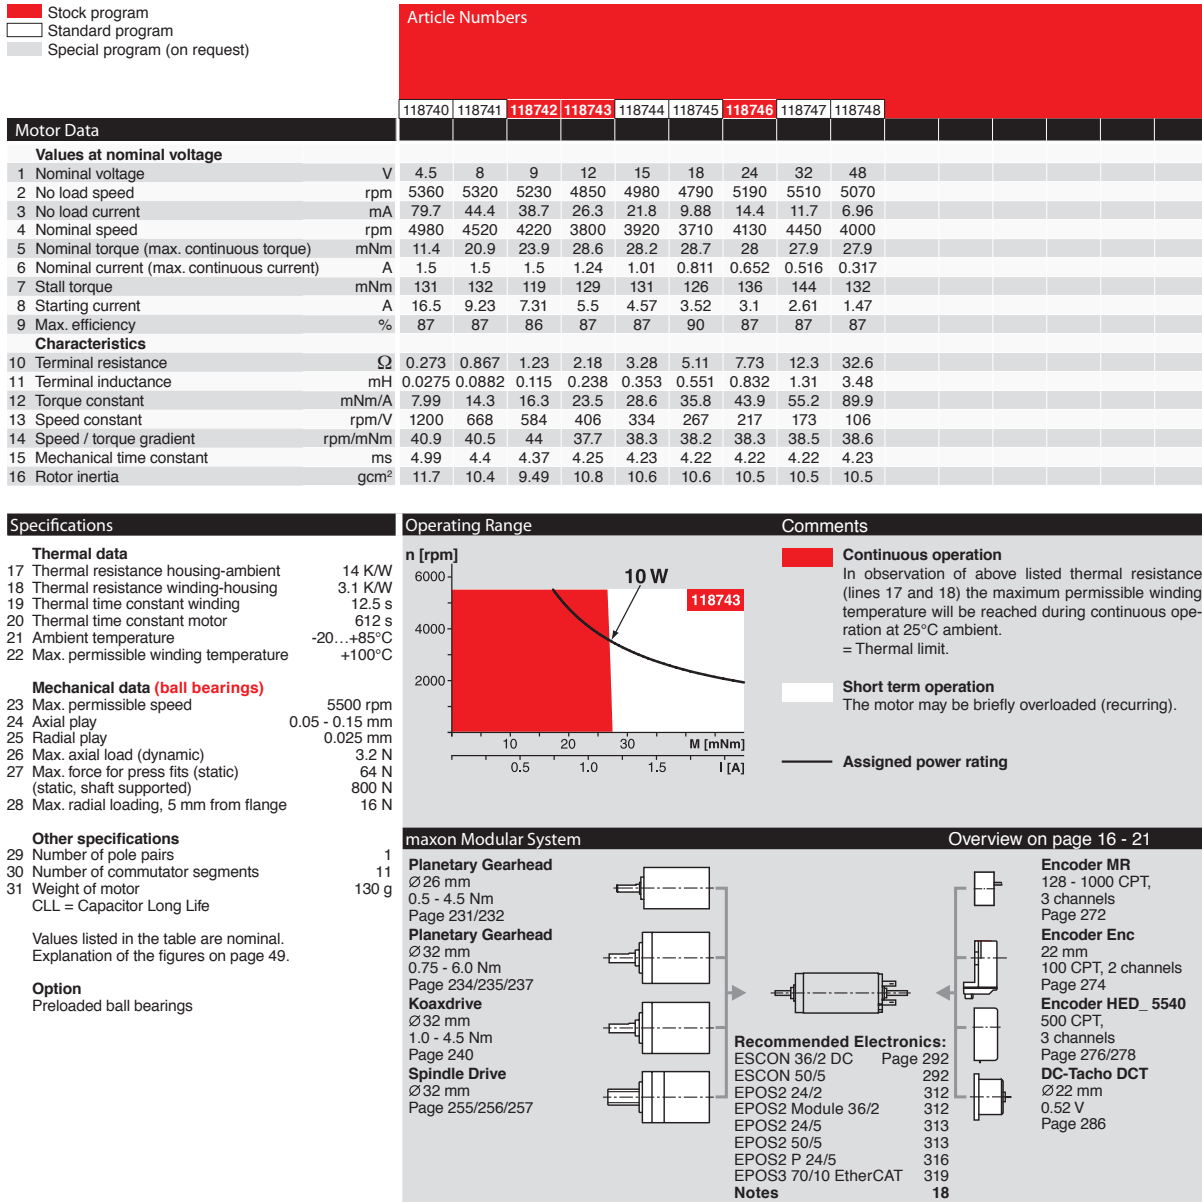

Figure 13.15: The data sheet for the Maxon RE 25 motor. The columns correspond to different windings for different nominal voltages.
2. Figure 13.15 gives the data sheet for the 10 W Maxon RE 25 motor. The columns correspond to different windings.
- (i) (Optional) Motor manufacturers may specify slightly different continuous and intermittent operating regions than the ones described in this chapter. For example, the limit of the continuous operating region is not quite vertical in the speed-torque plot of Figure 13.15. Come up with a possible explanation, perhaps using online resources.